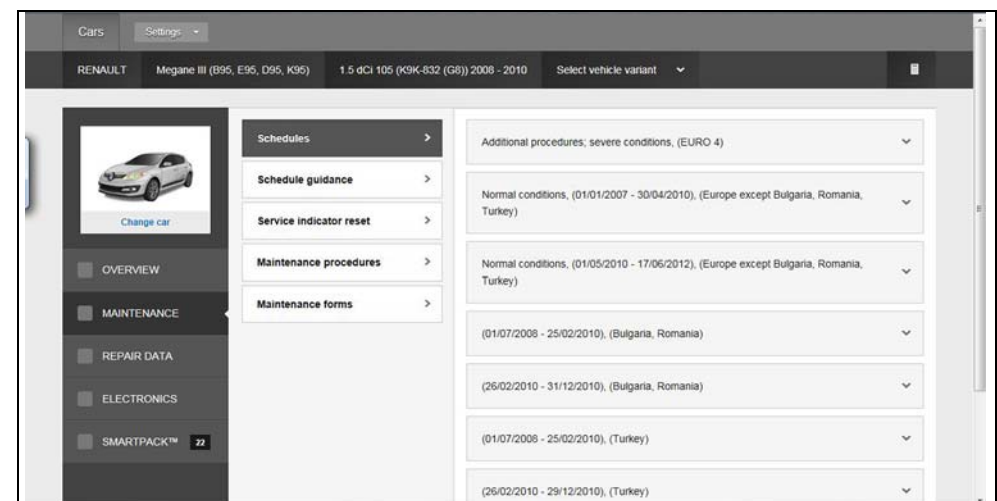

Figure 9-13
- **Schedules** - (Figure 9-13) Vehicle specific maintenance schedules including estimated labour times, parts required, procedures and intervals.